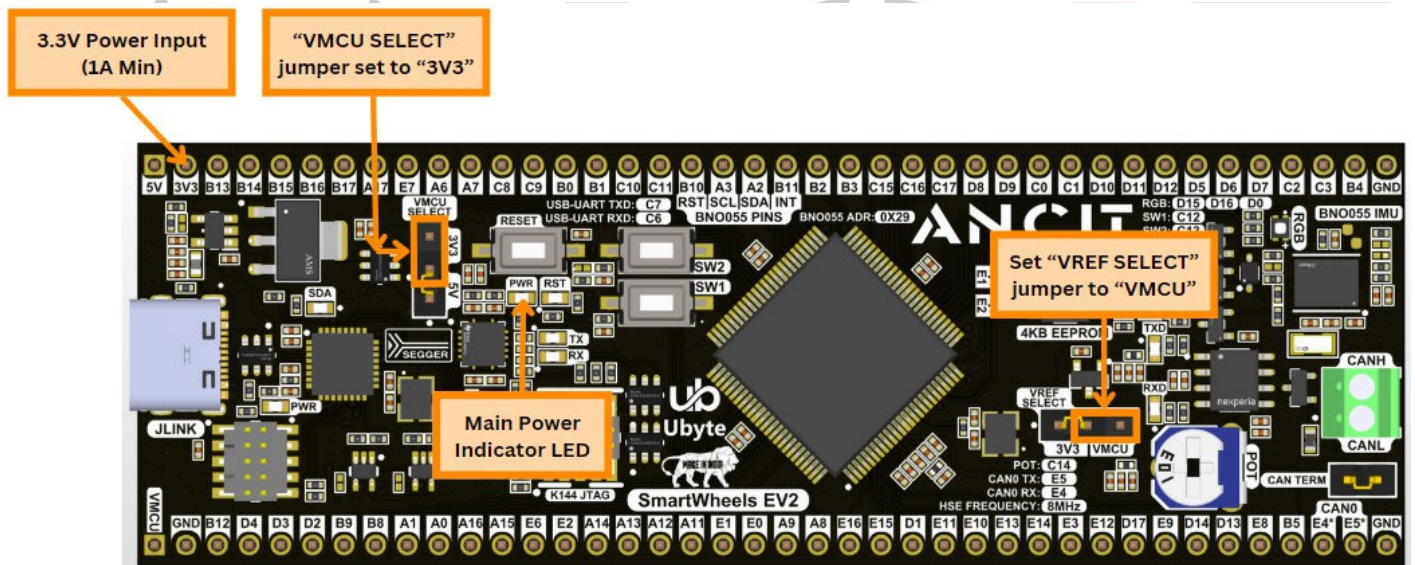

Fig 4 : Powering through 3V3 Power Pin
- The “PWR” LED is mentioned in Fig 4. indicates that power is being received by the SmartWheels EV2.